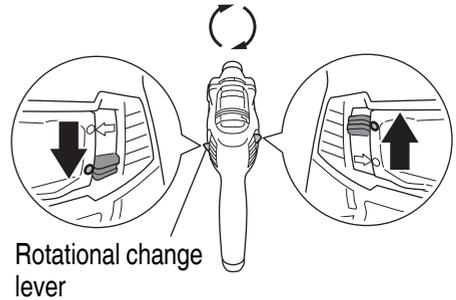

Fig. 6
11. Check the rotational direction (**Fig. 6, 7**)